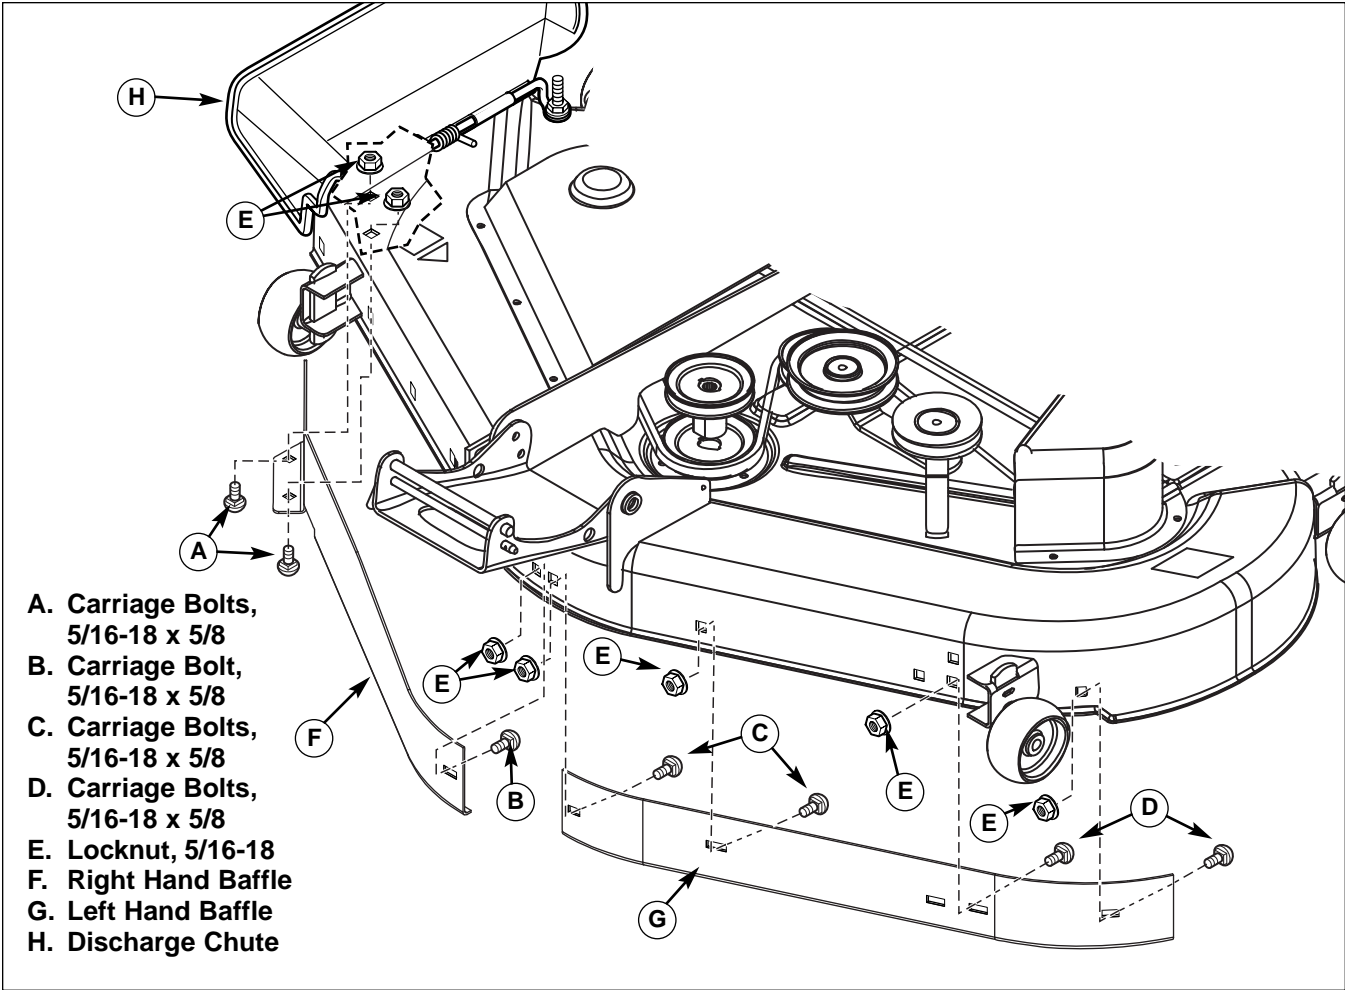

Figure 6. Install Baffles
2. Lift side discharge chute (H, Figure 6).
3. Insert baffle (F) through discharge opening and position baffle into place.
4. Tighten carriage bolts (A) and nuts (E) on baffle (F).
5. Tighten carriage bolt (B) and nut (E) on baffle (F).
6. Position baffle (G) into place.
7. Tighten carriage bolts (C) and nuts (E) on baffle (G).
8. Tighten carriage bolts (D) and nuts (E) on baffle (G).